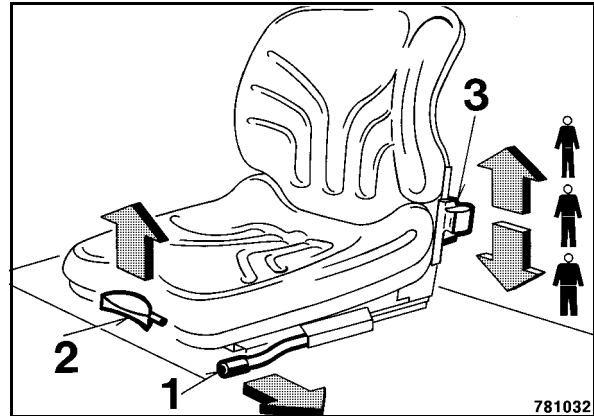

Fig. 45
- To adjust the seat in longitudinal direction disengage lever 1 (Fig. 45) and push the seat forward or back.
- To adjust the inclination of the backrest operate lever (2) and tilt the backrest forward or back.
- To adjust the weight adjust lever (3) accordingly.